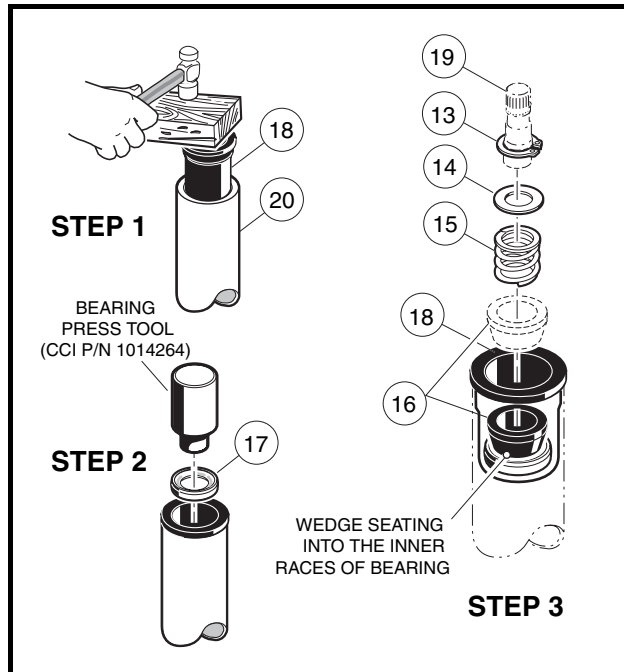

Figure 7-4 Steering Shaft – Bottom End
1. Insert bearing seat (18) into both ends of steering tube (20). Place a block of wood on bearing seat and tap lightly on block until bearing seat (18) is fully seated in steering tube (20) (**Figure 7-4, Page 7-5**).
2. Press the bearing (17) all the way into the bearing seat (18) using a steering column bearing press tool (CCI P/N 1014264) or a metal tube approximately six inches (15.2 cm) long with a maximum outer diameter of 1-3/16 inches (3.3 cm) and a minimum inside diameter of 7/8 inch (2.2 cm). Be sure the bearing is installed in the bearing seat as shown (**Figure 7-4, Page 7-5**) so the wedge (16) will ride against the inner race of the bearing.
3. Install the wedge (16), spring (15), washer (14), and snap ring (13) onto the bottom end of the steering shaft (19) (**Figure 7-4, Page 7-5**).